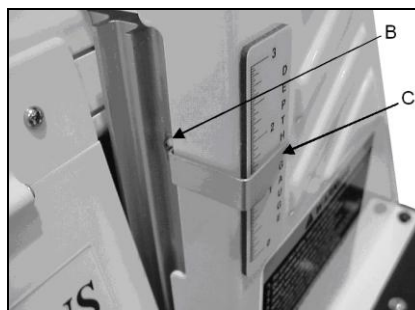

Fig 4
Lower the sanding drum until it touches the sanding bed. Loosen screw (B, Fig 4) and zero the indicator (C) in regards to the height scale.